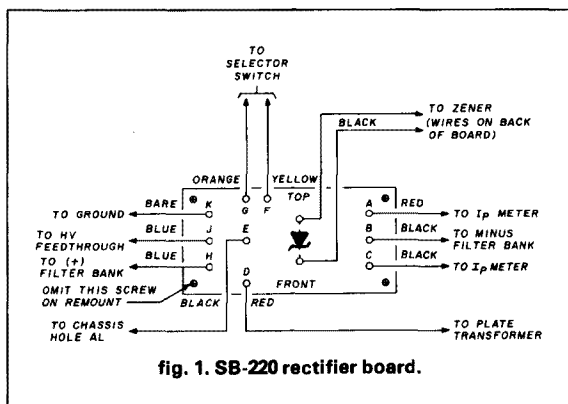

fig. 1. SB-220 rectifier board.
3. Make a wiring map of all twelve wires connected to the rectifier board and identify by color designator (fig. 1).